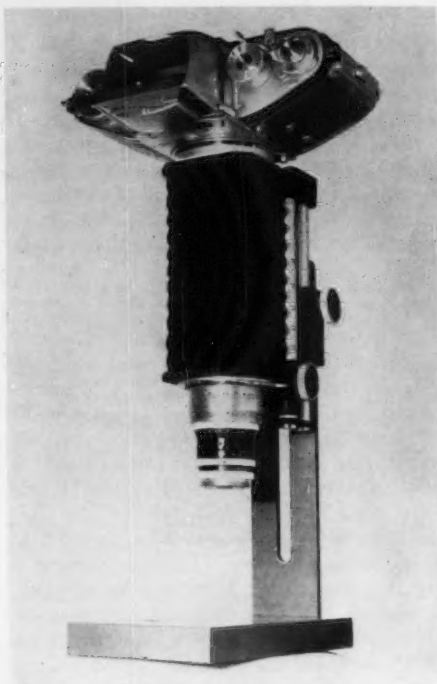

Fig. 1 A 35-mm camera with extension bellows. Note use of 16-mm movie lens in reverse position
For our photomacrographic studies, a 35-mm camera was used with an extension bellows and through-the-lens focusing (Fig. 1). The lens used was a 16-mm movie camera lens which was reversed to take advantage of an optical law which results in a sharper image when the lens is reversed.
The primary change to the potentiometer is the addition of a SPDT microswitch (S_M) as described by Hinkle (3). The microswitch is in the position shown in Fig. 1 during the recording of points 1 and 2, and in the opposite position for points 3 through 16 (for a 16-point recorder).
Four wires connect the potentiometer to the automatic switch as shown in Fig. 1. The wiring inside the potentiometer consists simply of connecting the microswitch as shown and adding the wires to the plug connecting the potentiometer and switch.
The automatic switch is constructed as a separate unit as shown in Fig. 2. The time clock and all controls are located on the front panel. Thermocouples are attached to terminal strips on the rear panel. The 32 thermocouples (with a 16-point recording potentiometer) are connected to the potentiometer through two 32-point, single-throw, gold-plated contact relays (R_A and R_B). The relays are connected to the potentiometer with thermocouple wire through a 32-prong plug not shown in Fig. 1; thus it is possible to separate the potentiometer and switch simply by unplugging the power plug and the thermocouple plug.